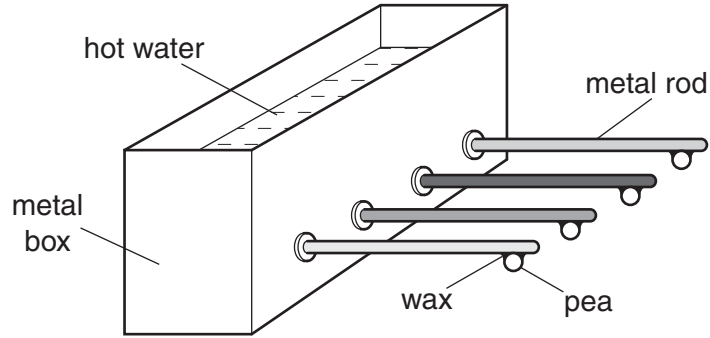

Fig. 3.1
- 3 A student compares the conduction of heat through different metals. Fig. 3.1 shows the apparatus used.